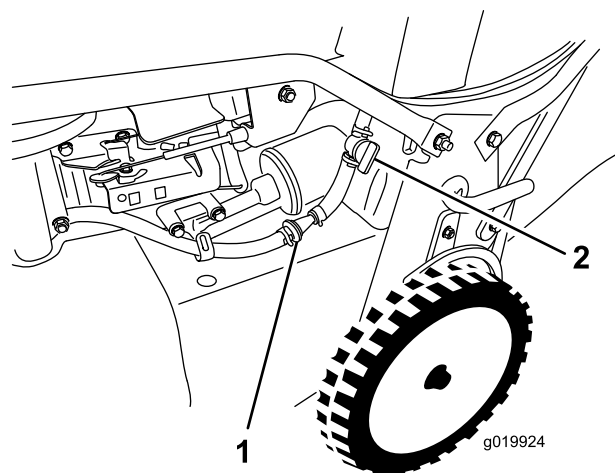

Figure 31
3. Close the fuel shut-off valve (Figure 31).
4. Remove the fuel filter (Figure 31) from the fuel line by loosening the tube clamps surrounding the fuel filter.